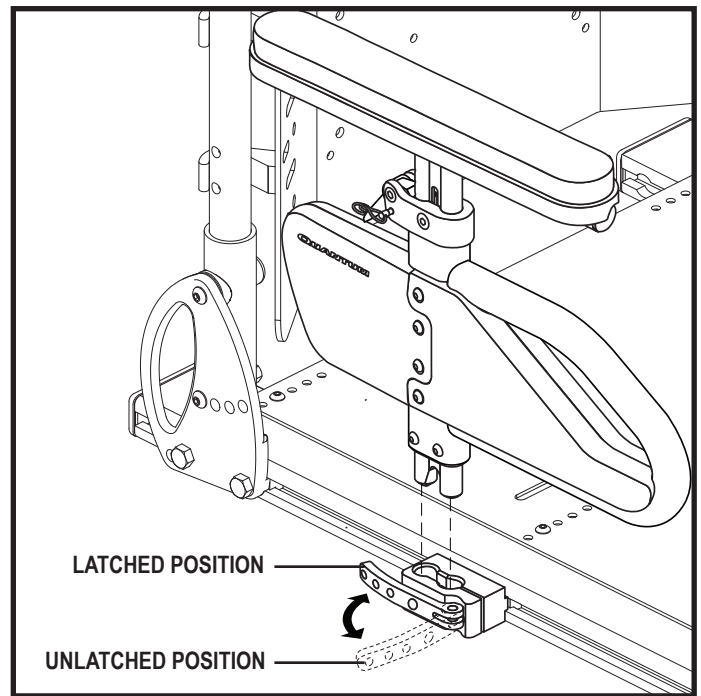

Figure 24. Single Post Quick Height Adjustable Armrest Removal/ Installation
1. Rotate the armrest latch lever forward. **See figure 24.**
1. Place the armrest assembly into the armrest latch. **See figure 24.**